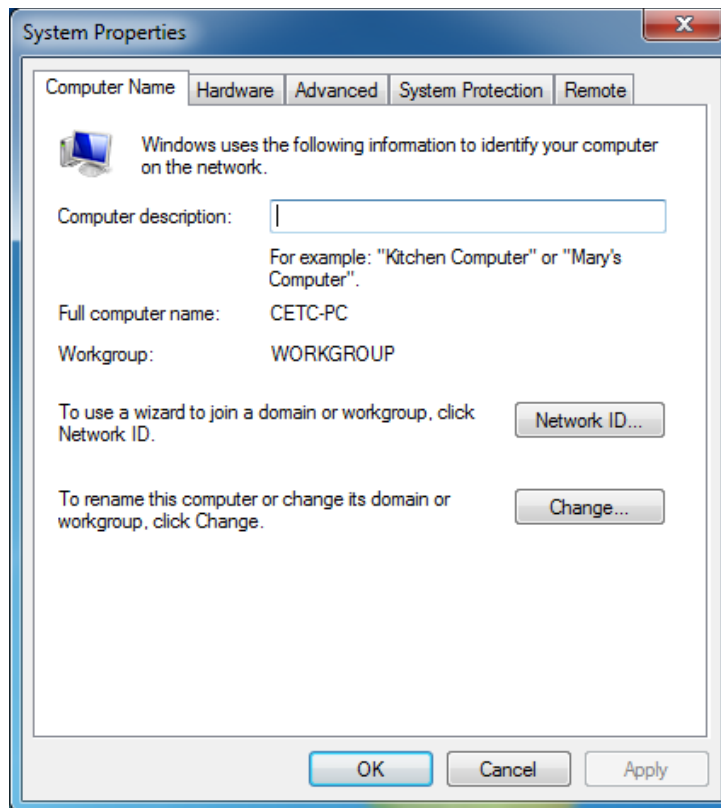

Fig. 3.10 Change host name
Step 1. Press Start menu, select Computer and right click Properties, click Change Settings at the right of Computer Name, Domain and Working Group and again click the Computer Name column to change. As shown in Fig. 3.10.